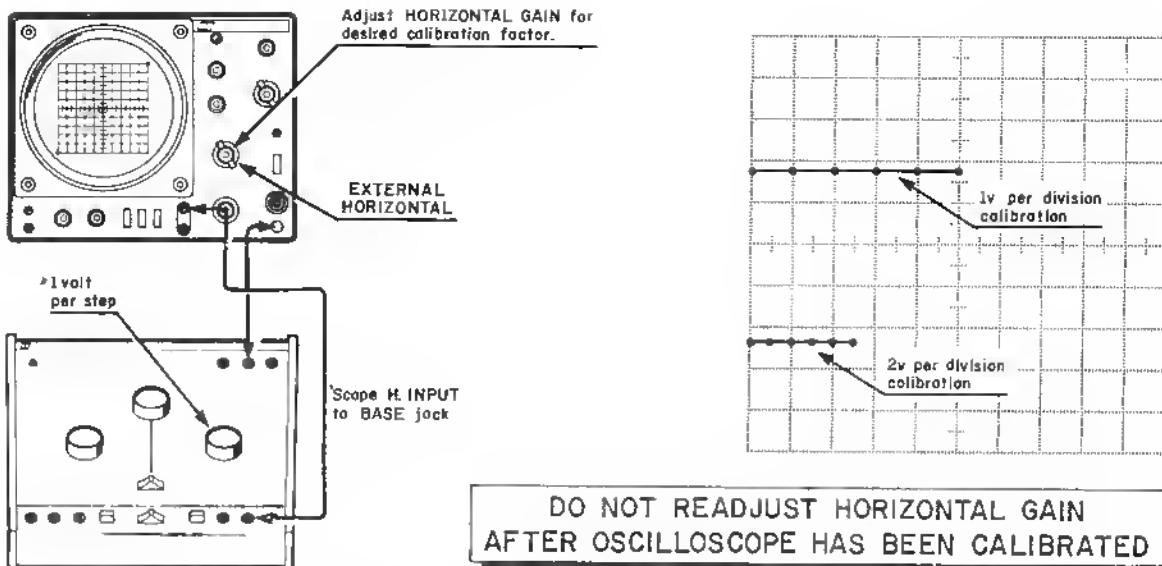

Figure 6. Oscilloscope Horizontal Calibration—Low Voltage
Low Voltage Horizontal Calibration (Refer to Figure 6)
6. The display should resemble that shown in Figure 6, a series of six horizontal dots, and possibly a light horizontal trace between dots. Adjust the horizontal gain of the oscilloscope so the display fills exactly 5 divisions of the graticule. Adjust the horizontal and vertical centering controls as required.